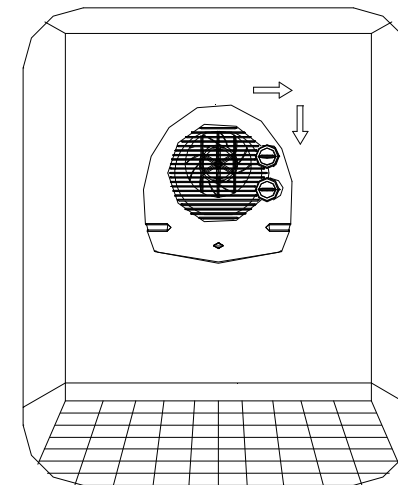

Fig. 4
7. Slide the heater to the right along hanging slot than slide it down to mount securely. (Fig. 4)